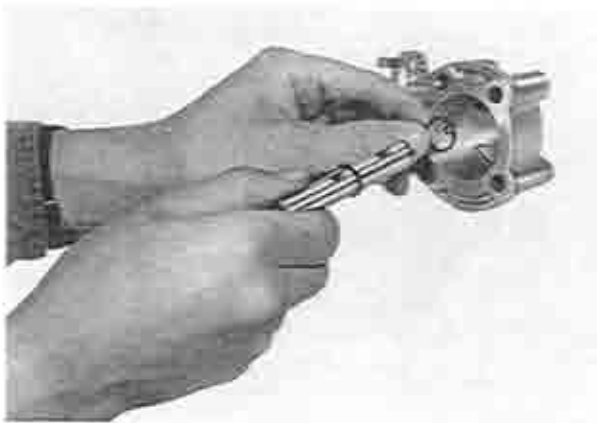

Fig. 2-7 Assembling oil pump
3. Fix the thrust washer to the stop ring of the shaft as shown in Fig. 2-7. Mount the inner rotor and shaft assembly to the pump body.